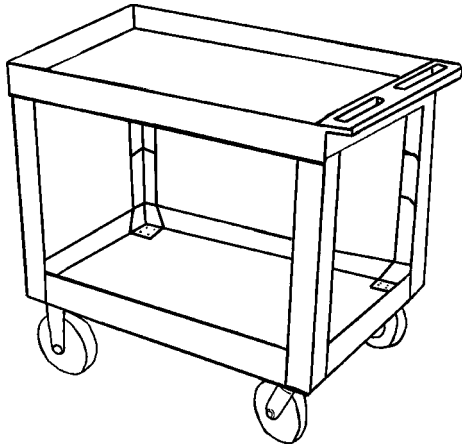

Figure D.1
carts. Filmtools sells the Magliner carts as well as a version called the Liberator Jr. and Liberator Sr. These are excellent carts as well, and both the Magliner and Liberator carts can be customized with a wide range of accessories to suit your individual needs. Many Camera Assistants add extra shelves and other accessories to these carts for them to be used most efficiently for transporting equipment while on stage or location. In addition to the Magliner or Liberator carts, many Camera Assistants use a rolling utility cart manufactured by Rubbermaid. See Figures 4.19 and 4.20 in Chapter 4 for illustrations of the Magliner cart. See Figure D.1 for an illustration of the Rubbermaid cart. Choose the type and style of cart based on shooting needs as well as cost.
- Magliner, Liberator, Rubbermaid, or other type equipment cart (see Figure D.1)